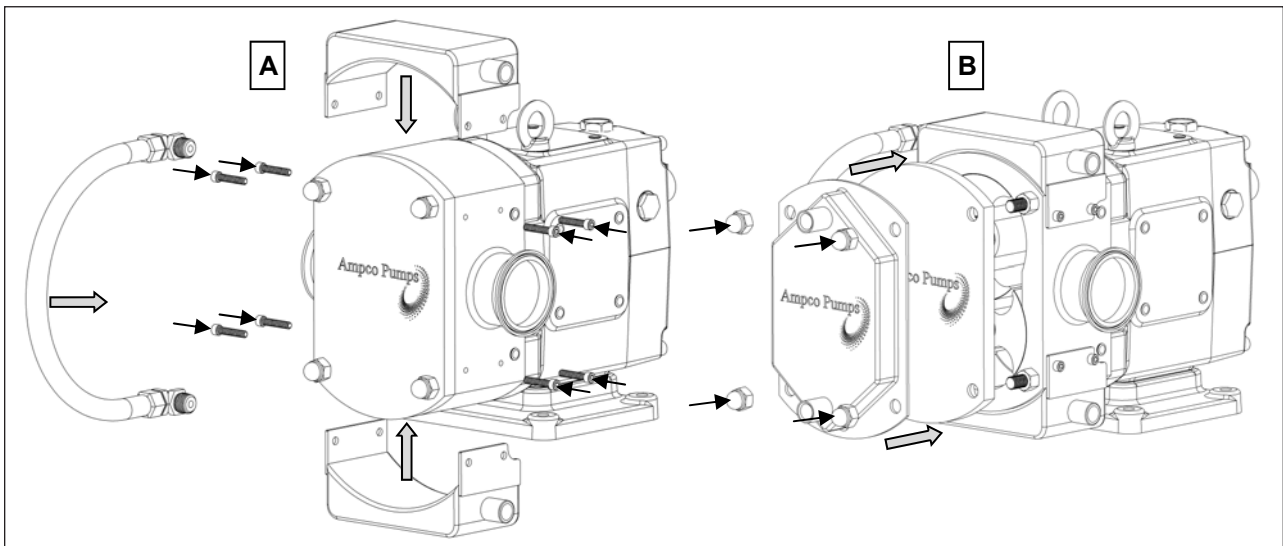

Figure 50. Jacketed Cover Installation
2. Apply a light coat of lubricant on the shaft. Open the new rear bearing and place it over the shaft, above the bearing spacer (*Figure 50, A*). Using a sleeve that rests on the bearing's inner race and over the shaft, press the bearing on until it seats against the
bearing spacer. For the AL40 series it is important to keep all assemblies together as they come packaged. Make sure the bearing is rested on the bearing spacer using a shim (*Figure 50, B*).